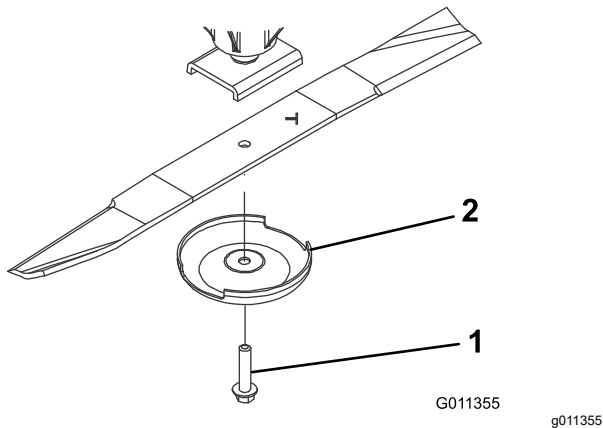

Figure 68
3. Remove the blade bolt, anti-scalp cup, and blade from the spindle shaft (Figure 68).